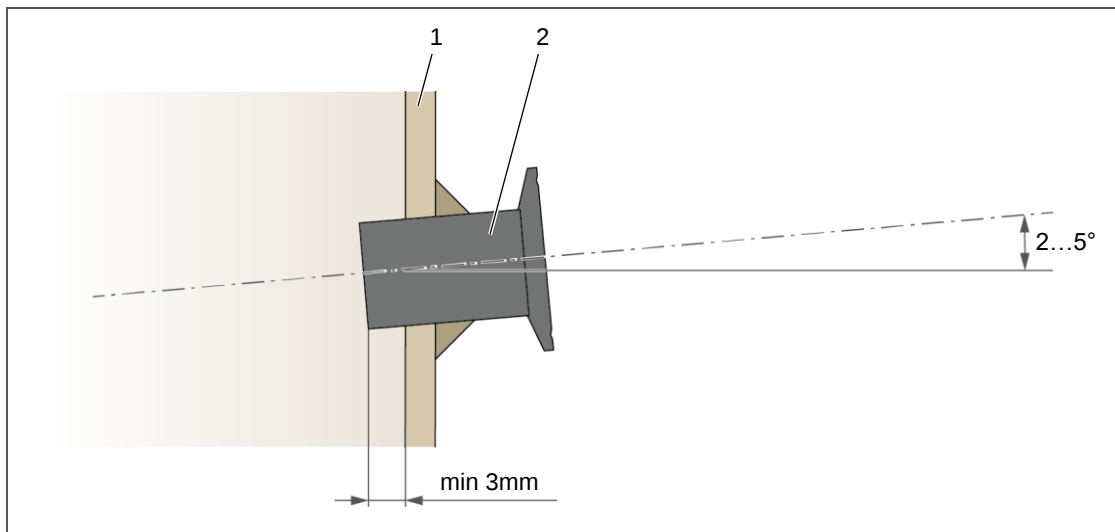

Fig 12: Installing the welding sleeve (side view)
The device can be fitted into the horizontal or vertical duct. The device itself can be positioned laterally or at angles up to vertically from above. If installing the welding sleeve to the side, observe the correct installation angle (see Fig 12).
2. Affix the welding sleeve (2, Fig 12) to the provided opening in the duct wall (1).